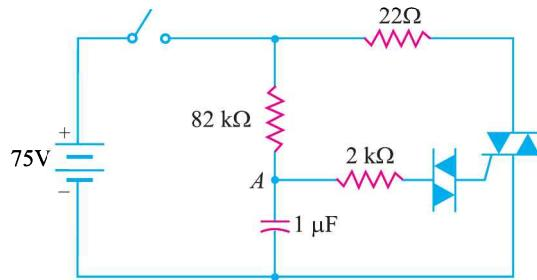

Fig. 21.23
**Example 21.6.** In Fig. 21.23, the switch is closed. A diac with breakdown voltage  $V_{BO} = 30V$  is connected in the circuit. If the triac has a trigger voltage of 1V and a trigger current of 10 mA, what is the capacitor voltage that triggers the triac?